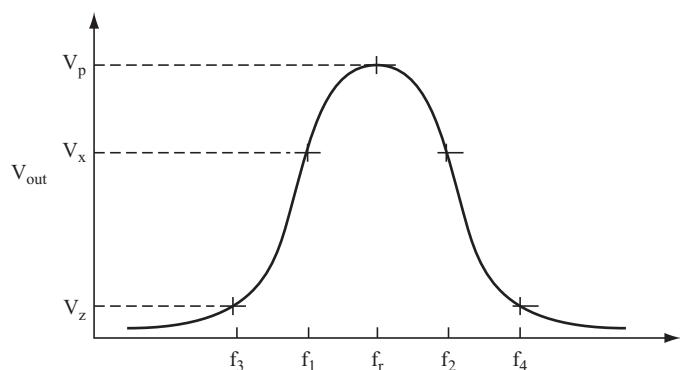

FIGURE 7.19
- 14** Now it's time to look at the output curve in a little more detail. Take a look at the curve shown in Figure 7.19 for an example.